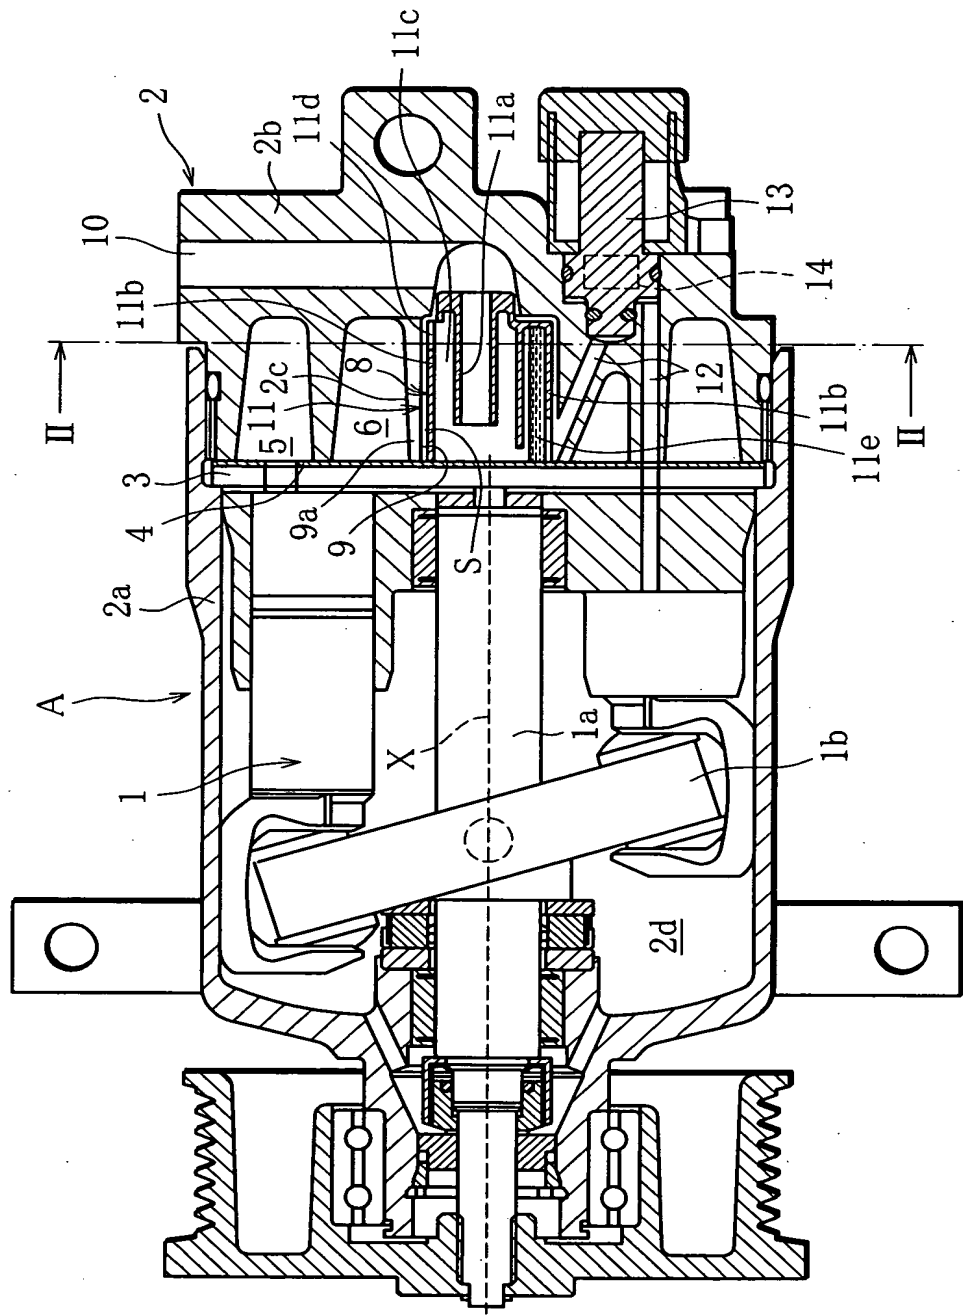

FIG. 2
FIG. 2 is a cross-sectional view of a mechanical assembly. The assembly includes a central shaft (10) with a hub (6) and a gear (8) mounted on it. The gear (8) is in mesh with a larger gear (9) mounted on a shaft (7). The gear (9) is housed within a housing (5) which has a flange (2b) and a seal (2c). The housing (5) is mounted on a base (12) which has two circular features (11a, 11b, 11c, 11d, 11e). The base (12) is secured by a bolt (10). The entire assembly is labeled with various reference numerals: 10, 7, 5, 6, 8, 9, 2b, 2c, 11a, 11b, 11c, 11d, 11e, 12, and X. A dashed line A indicates a cross-section through the assembly.